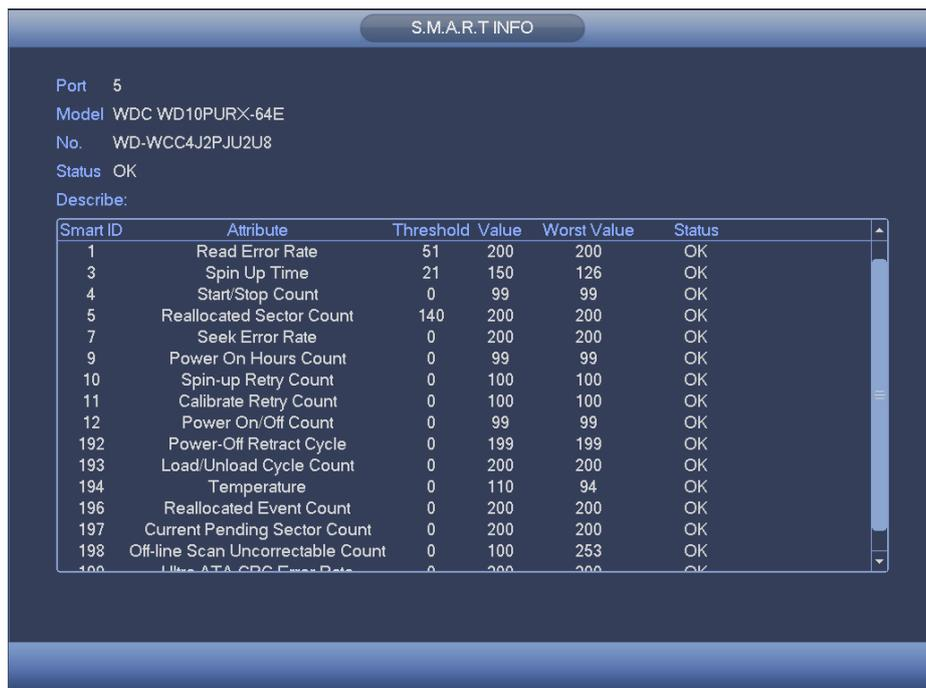

Figure 4-211
- SMART: Display HDD information. See Figure 4-211.
Double click , you can see the HDD SMART information. See Figure 4-211.